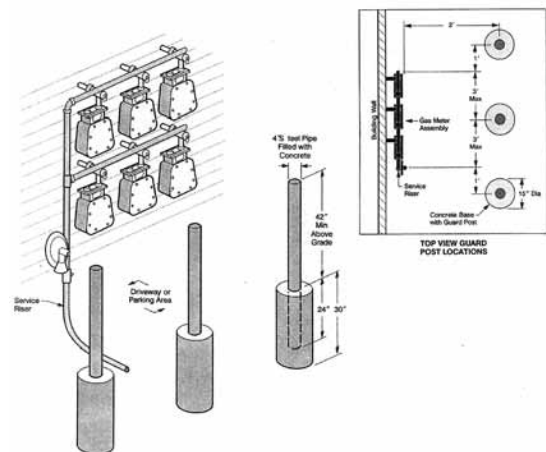

Figure 9. Commercial/industrial and multifamily meter guard post requirements.
- See Figure 9 for guard post spacing requirements. Maximum spacing is required to protect meter set assembly and service riser from damage.
- If there is less than 5 feet between the curb and the meter, guard posts shall be installed per Figure 9.
- Other guard post designs will be considered. Please contact MGE Gas Systems Engineering at (608) 252-7933 or (608) 252-7931 to discuss those options.